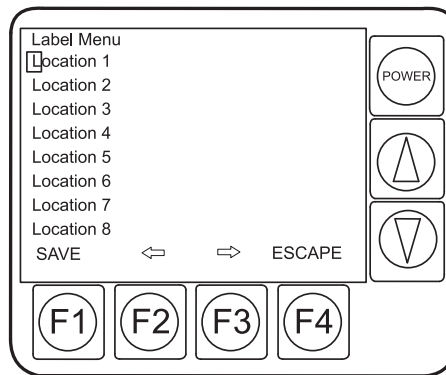

Figure 18 Edit the location label
4. Press **F1** (Edit). A box cursor is displayed on the first letter of the label (refer to Figure 18).